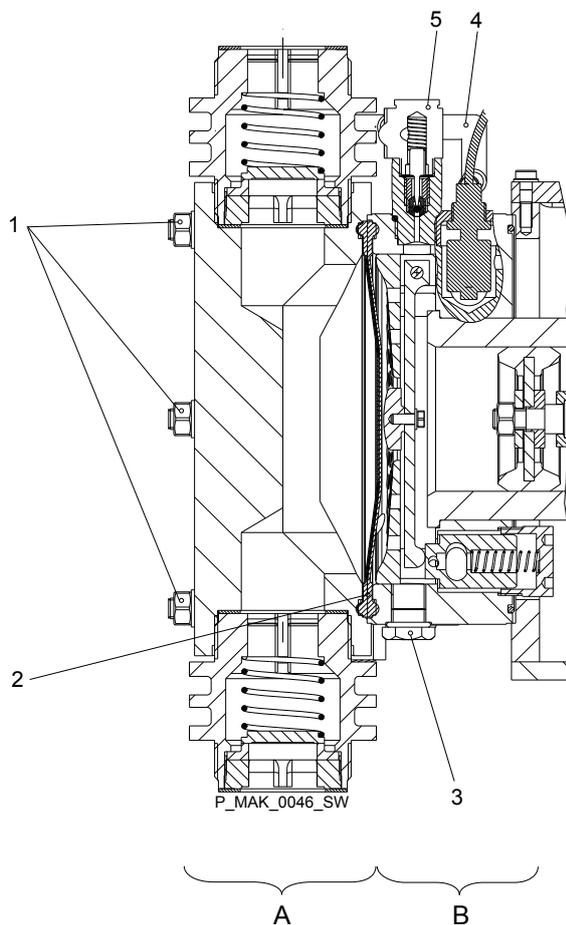

Fig. 22: Cross-section through the liquid end and hydraulic end
6. ➤ Only drain the hydraulic oil from the hydraulic end via the clear acrylic plug (3) - see Fig. 22.